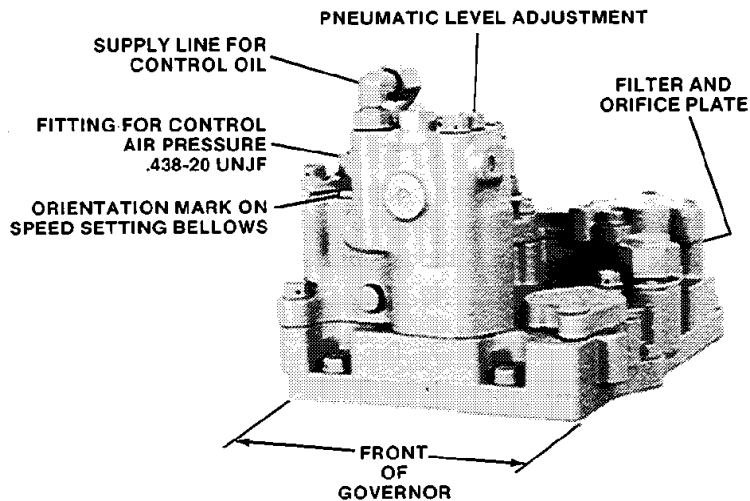

Figure 3-4. Pneumatic Speed Setting Device
12. Place speed setting spring (6) in housing (22) and seat it in lever (29). Place speed setting piston over spring (6). Be sure the piston moves freely in housing (22).
13. Put O-ring (4) on plug (3). Place plug (3), with threaded hole up, in housing (22). Secure the plug with cover plate (2) and three screws (1).
14. Put O-ring (20) on speed setting bellows (19). Install bellows (19) in housing (22) with the orientation mark on the top of the bellows turned to the front of the governor (Figure 3-4). Secure bellows in housing with plate (18) and two screws (17).
**Find the orientation mark on the top edge of the bellows. Turn this mark to the front of the governor (Figure 3-4). This is approximately mid range. Turning this mark to the right side when facing the governor nameplate) increases the amount of speed change for a given air pressure change (rpm/psi). Turning the mark to the left side decreases the amount of speed change for a given air pressure.**
3. Turn pilot valve spring seat (14) counterclockwise five full turns.
4. Adjust spring seat (14) clockwise until the governor output shaft just moves to minimum position, then counterclockwise one full turn. Reduce control air pressure to 0.
6. Apply the specified low air pressure to the speed setting bellows. Turn speed adjusting screw (32) to obtain the specified low speed (clockwise to decrease).
- d. Install steel ball (11) in nut (12).